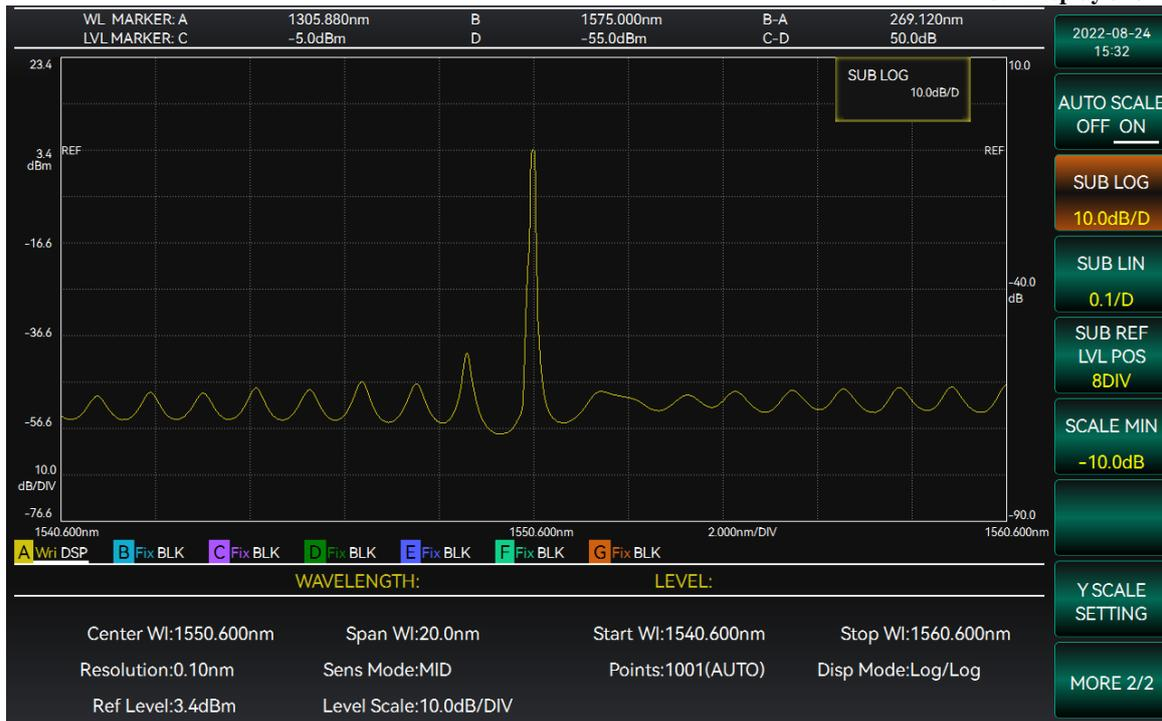

Figure 3-23 Setting sub-reference logarithmic scale interface
2. Select [LogDisp] and enter the logarithmic scale value via the knob or number keys to complete the setting. The operation interface is shown in Figure 3-23.